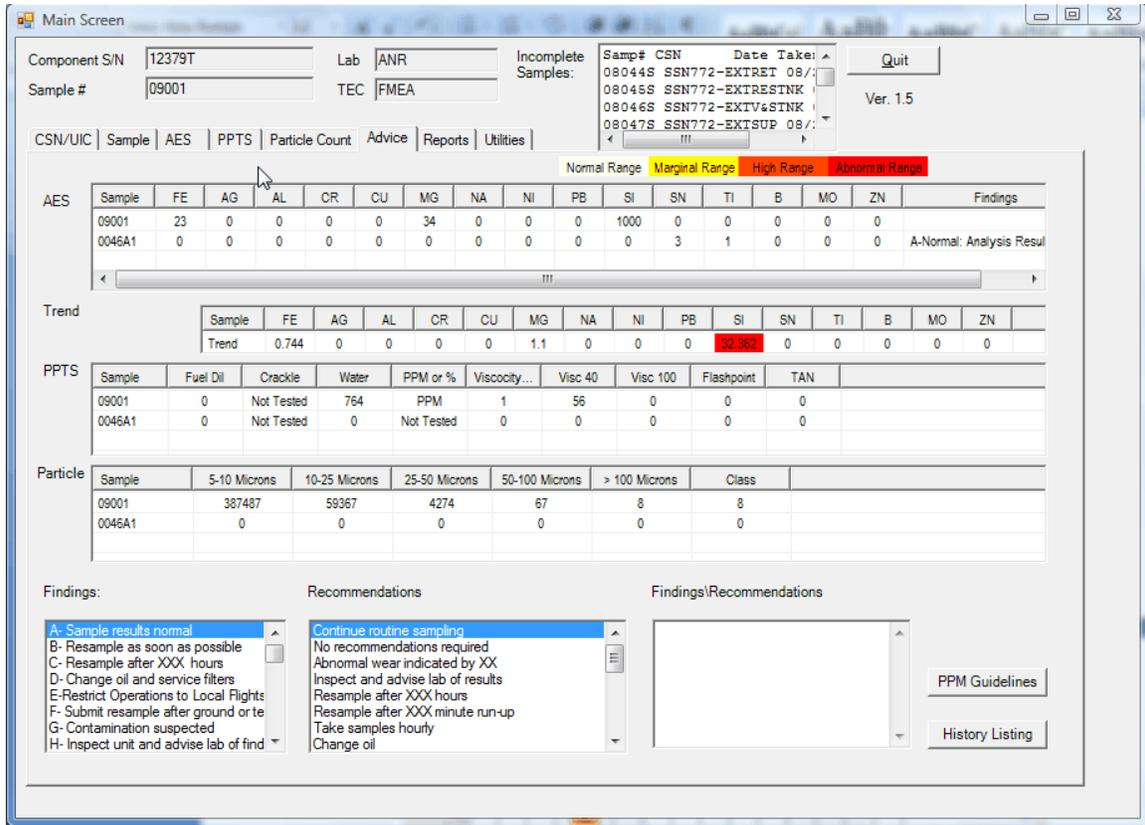

Figure 15. Advice Tab
- (1). Use the pull down to choose the standard.
- (2). Enter the amounts for all the ranges.
- (3). Select the Class.
- (4). Add any remarks if needed.
- (5). If you choose to add PPTS data without completing the record press the M to save the data and select the next record in the incomplete box.
- (6). Press the advice tab to continue to the next screen (Figure 15).